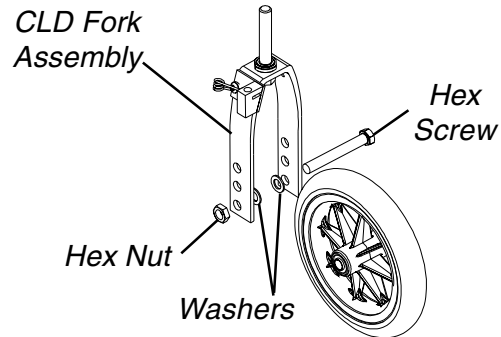

FIGURE 2 - MOUNTING CASTER TO CLD FORK ASSEMBLY
MOUNTING CASTER TO CLD FORK ASSEMBLY (FIGURE 2)
2. Secure the caster to the CLD fork assembly in the mounting position determined in STEP 1 with the hex head bolt, washers and the hex nut as shown in FIGURE 2. Tighten securely.